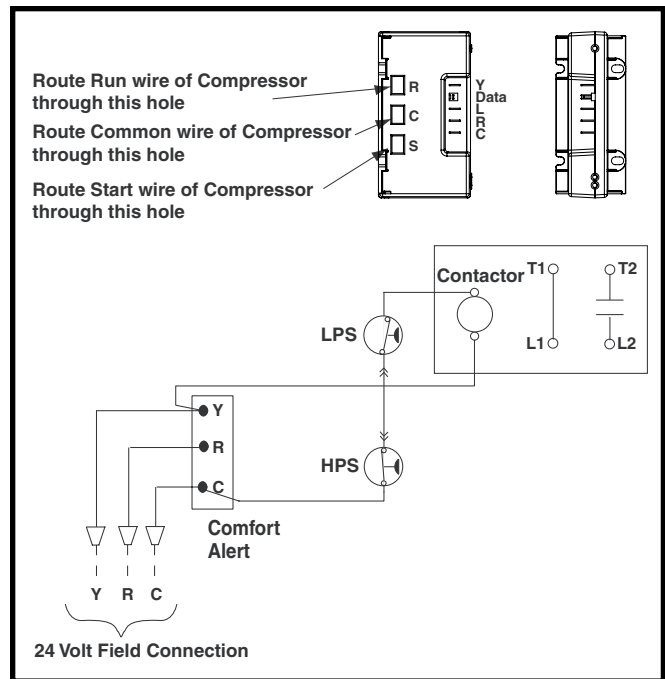

Figure 2. Current AC Wiring with Comfort Alert
1. Remove all wires from the Comfort Alert, including wires that run through the comfort alert sensing holes. See Figure 2.